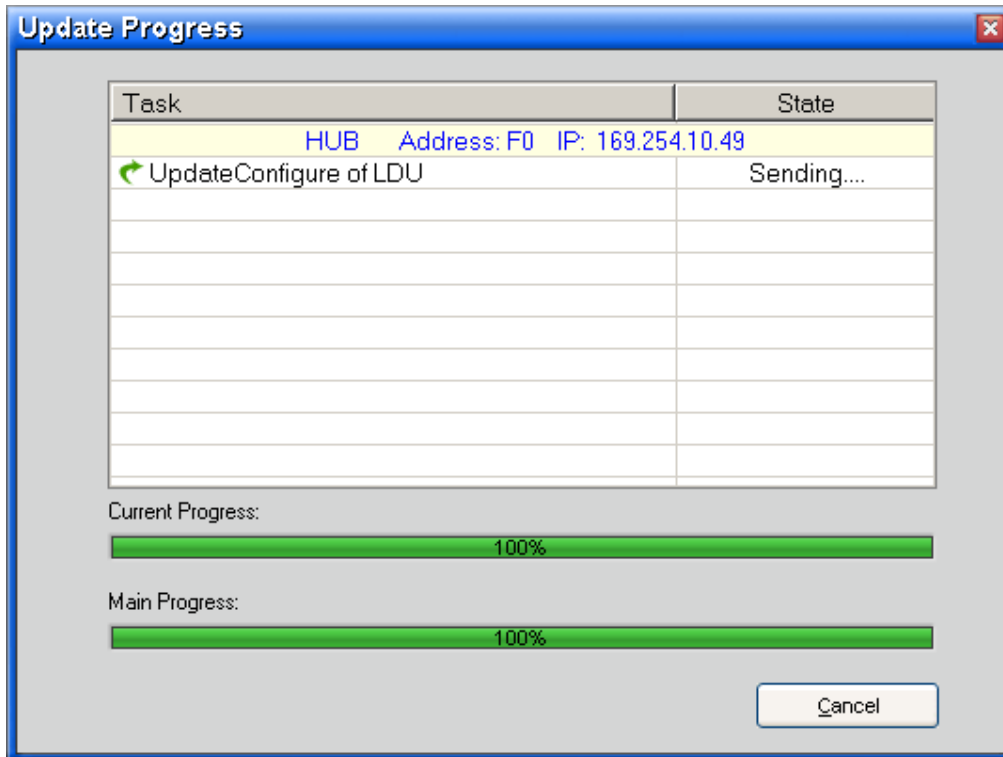

Fig. 7.27 Update Progress window
Step 4: Press the button **Update** to run the operation you have selected, and you will see the window as shown in the Fig.7.27.